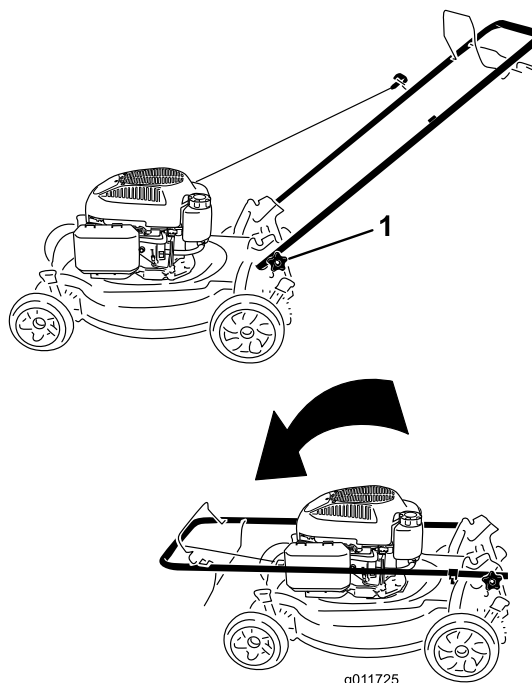

Figure 27
1. Loosen the handle knobs until you can move the handle freely (Figure 27).
1. Handle knob (2)
2. Move the handle forward as shown in Figure 27.